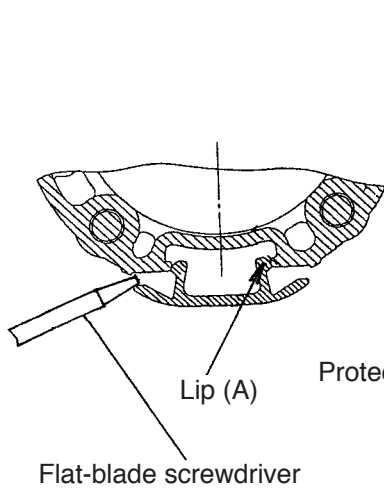

Fig. 16
- After removal of the Exhaust Cover [7] in the above step (1), the Cylinder [16], Cylinder Plate [20], Piston (H) [22], Piston Bumper (A) [34], Piston Bumper (B) [35], etc. can be removed.
- To remove the Protector [25], release lip (A) of the Protector [25] with a flat-blade screwdriver first, then pull up lip (B) from the Body Ass'y [26] (Figs. 16 and 17).